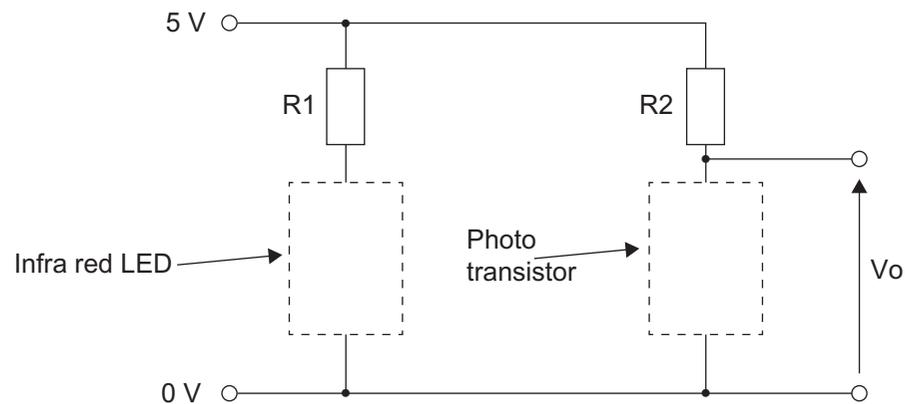

Fig. 2(a)
- 2 **Fig. 2(a)** shows an incomplete circuit consisting of a 5 volt supply and two resistors, R1 and R2. The resistors are connected to an infra red LED and phototransistor respectively.